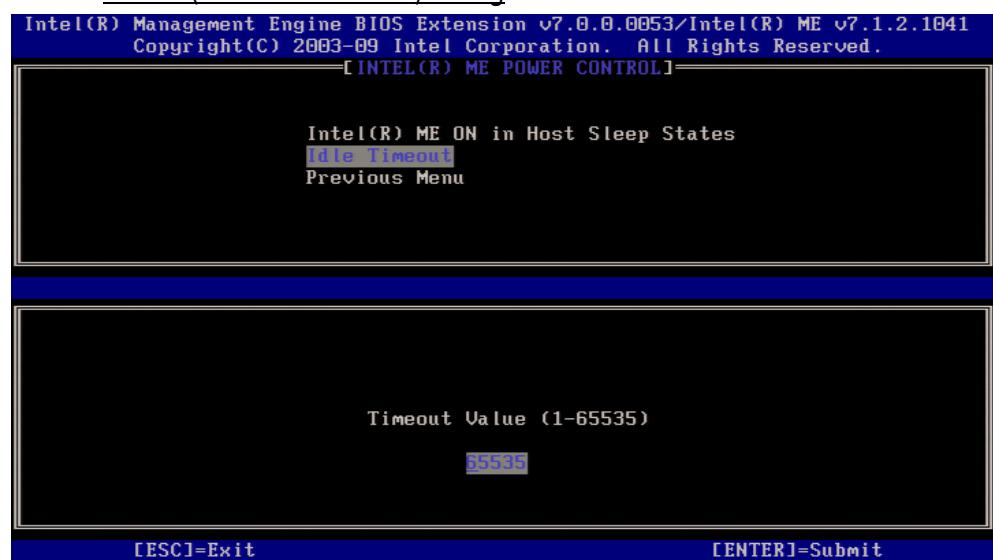

Figure 7. Intel ME Idle Timeout Screen
b. Select **Idle Timeout** (Figure 7).